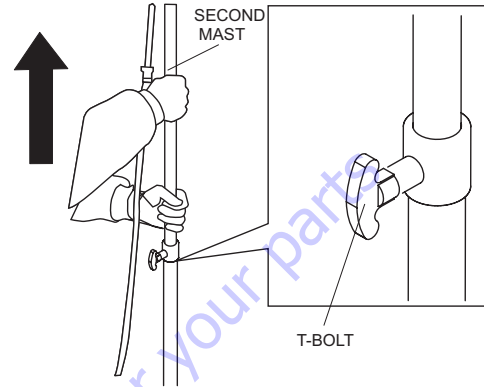

Figure 24. Lowering Second Mast
1. Loosen the T-bolt holding the second mast and push mast all the way down. Tighten T-bolt securely. See Figure 24.